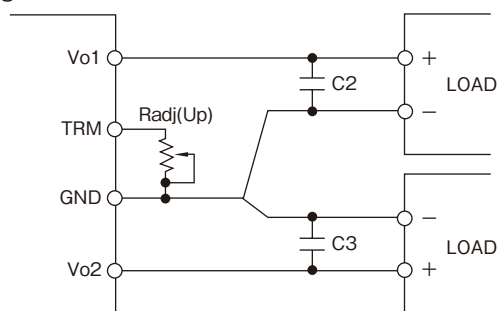

Fig. 3-4: Connection for output voltage trim up
- GND terminal: to adjust to higher output voltage; Fig.3-4 or